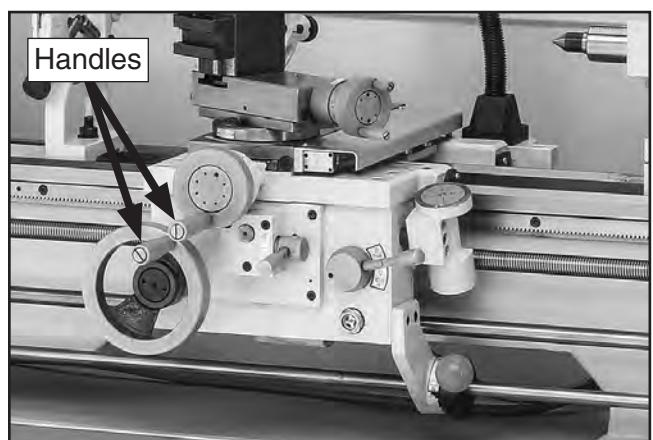

Figure 15. Handles attached to handwheels.
7. Attach handles to handwheels with shoulder screws, as shown in **Figure 15**.